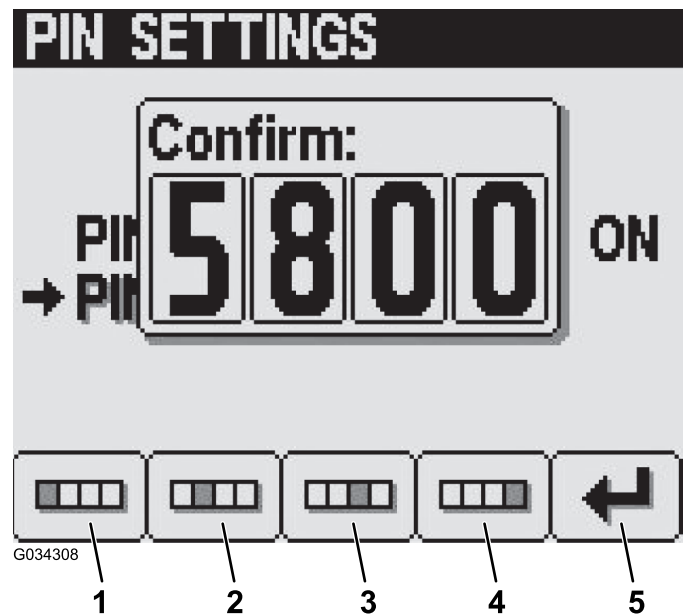

Figure 20
6. Confirm your new PIN using buttons 1 to 4 and press button 5 when you complete the PIN (Figure 20).
Note: After you confirm the pin settings (Figure 20), a Pin Correct screen will appear for approximately 5 seconds.